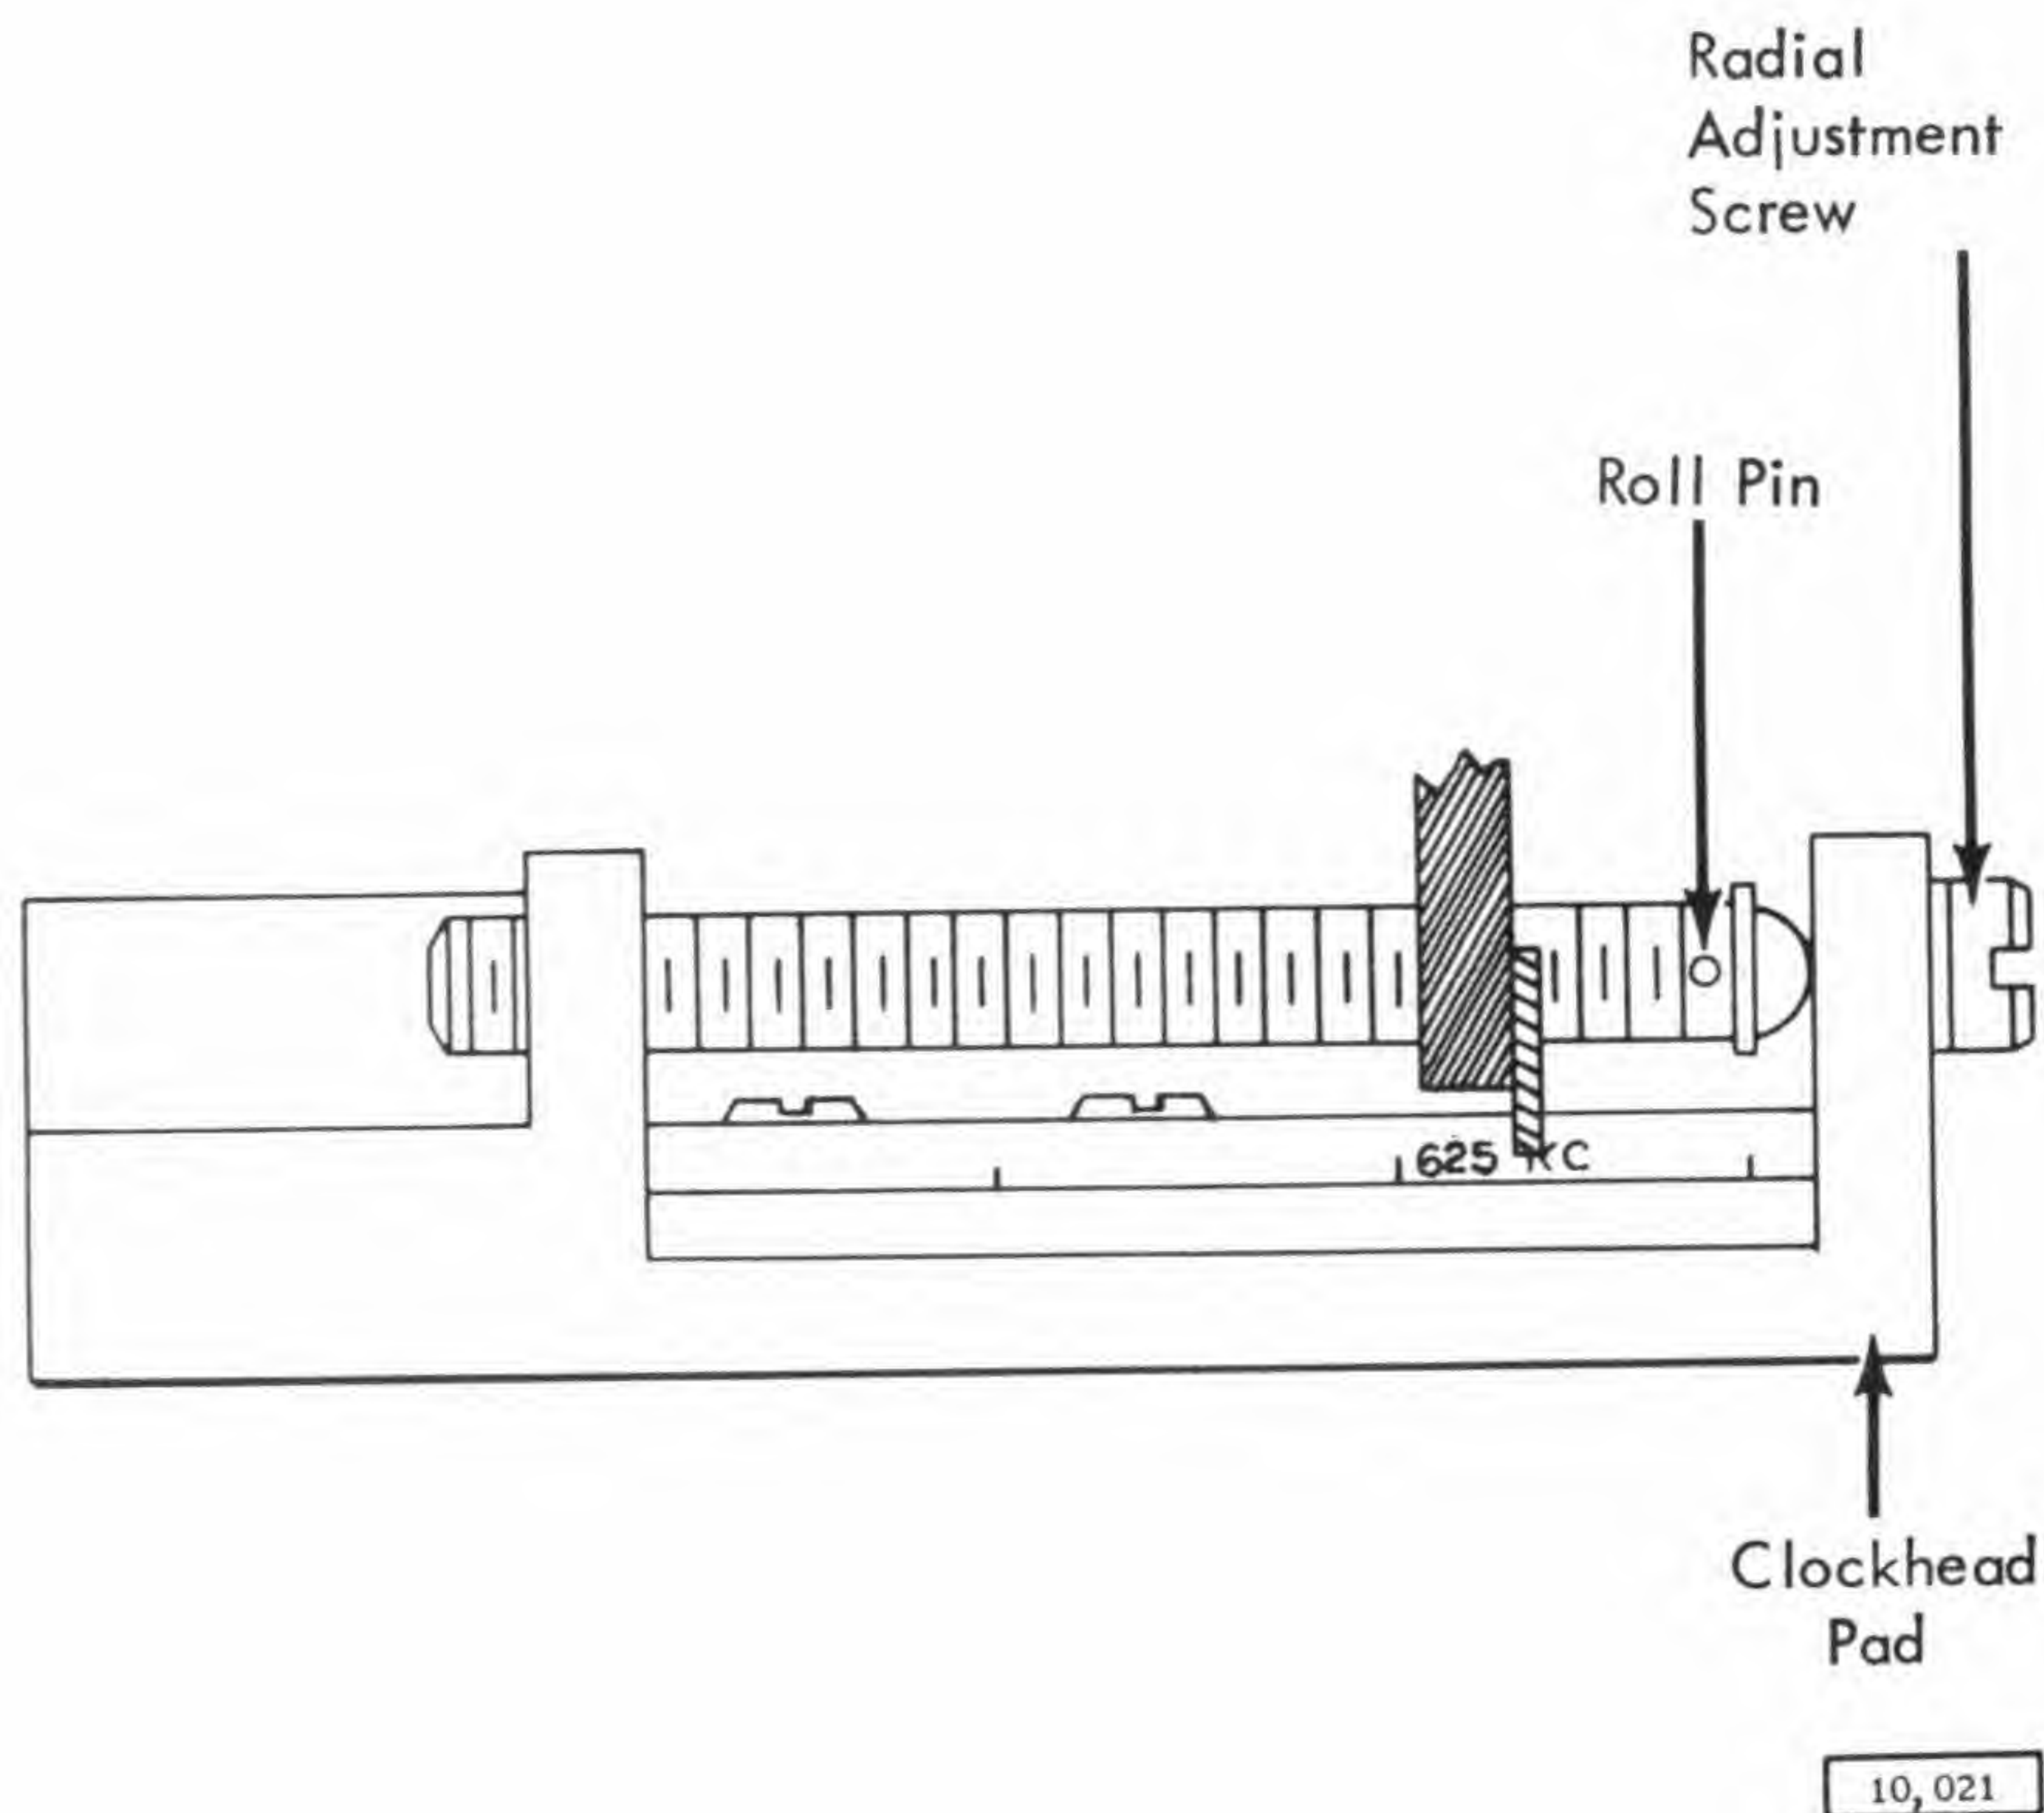

Figure 2-33a. Clock Head Radial Adjustment
Three 625 kc clock tracks are recorded at the intervals marked on the clock indexing plate (Figure 2-33a). Each of the clock tracks contain 20,920 cycles less the 20 missing cycles representing the sector marks. Each clock track must match the other tracks, cycle for cycle, except at the trailing edge of index time. A gap or nonsymmetry may occur at this point if the crossover point does not represent a phase shift greater than 36 degrees.
2. Replace clock head assembly by slipping over locating pins. By means of the adjusting screw (Figure 2-33a), adjust clock head